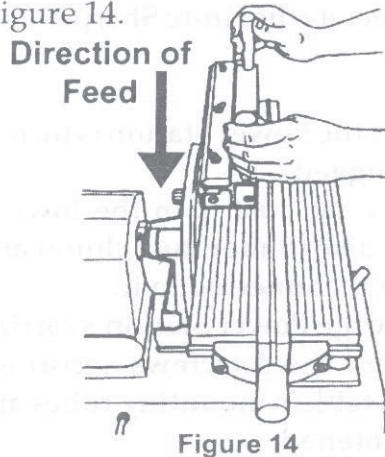

Figure 14
15. Standing at the end of the Power Station with the extension table between you and the Conical Sanding Disc, hold both handles of the Knife Sharpener and feed the knife into the abrasive surface, as in Figure 14.